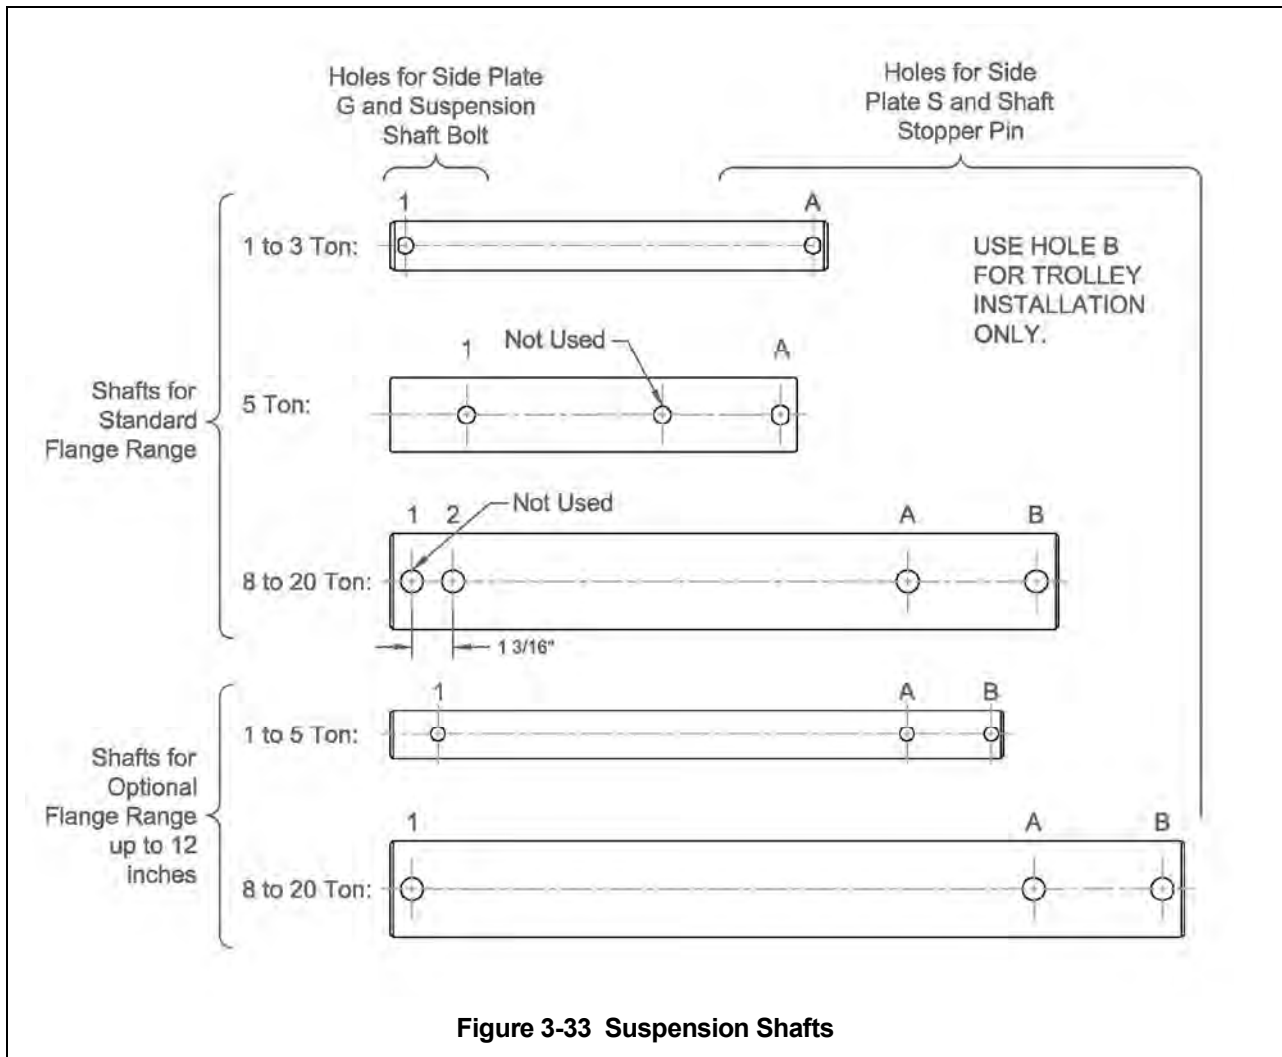

Figure 3-33 Suspension Shafts
- 2) Insert the Suspension Shaft to Side Plate G or S and attach it with the Shaft Stopper Pin and Split Pin (cotter pin). Refer to **Figure 3-33** to ensure that the correct Suspension Shaft holes are used. Securely bend both branches of the Split Pin after insertion.
- 2) Insert the Suspension Shaft to Side Plate G and attach it with the Suspension Shaft Bolt, Slotted Nut and Split Pin (cotter pin). Refer to **Figure 3-33** to ensure that correct Suspension Shaft holes are used. Securely bend both branches of the Split Pin after insertion.
- 5) Install the outer adjusting Spacers on the Suspension Shaft outside of Side Plate S. Refer to **Figure 3-33** and insert the Shaft Stopper Pin into hole "A." Temporarily install the split pin in the Shaft Stopper Pin and bend the split pin slightly to hold it in place. The split pin should be fully bent after checking and attaining the proper beam flange adjustment.